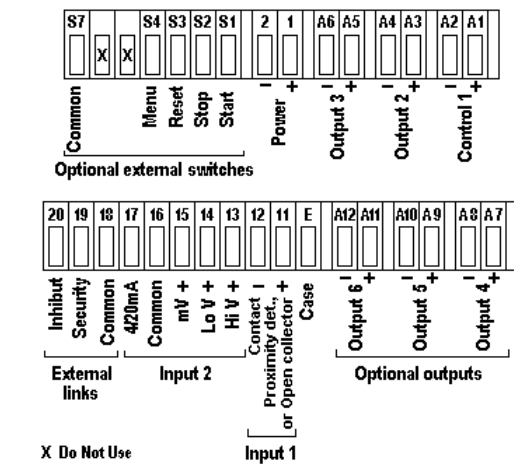

Fig 10 Dimensions and terminal connections
- d. Connect the field wiring to the terminals as shown in Fig 10.